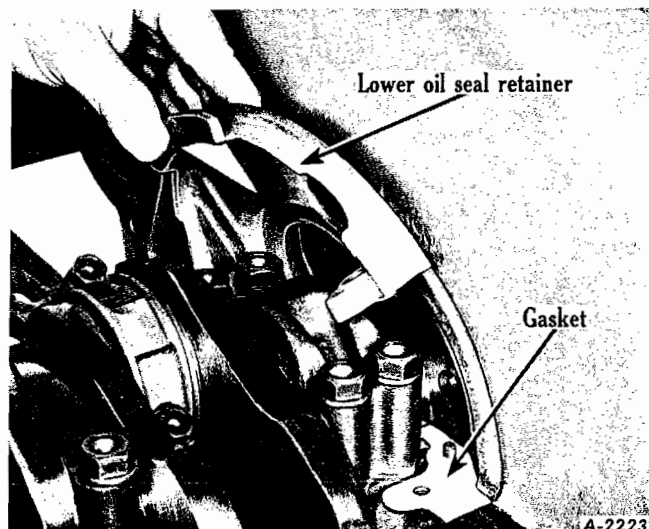
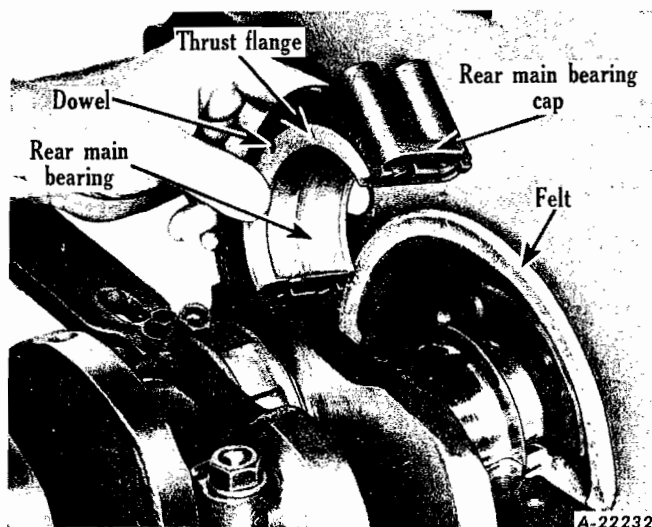

Fig. 22
Fig. 23
5. The crankshaft bearing caps are numbered to identify their position and they must be reinstalled in their respective positions. Remove rear oil seal retainer (Fig. 22). Remove all crankshaft main bearing caps (Fig. 23). Remove twelve capscrews from clutch and remove clutch. Remove six self-locking bolts from flywheel. Install two 1/2" N.C. bolts, 2" long, in threaded holes in flywheel and force flywheel from crankshaft flange dowels (Fig. 24). Remove flywheel from housing. Remove six bolts from engine flywheel housing (Fig. 25). Tap housing with a soft hammer to knock it from dowels. Remove housing from crankcase. Lift crankshaft straight up and out of cylinder block and place in vise with